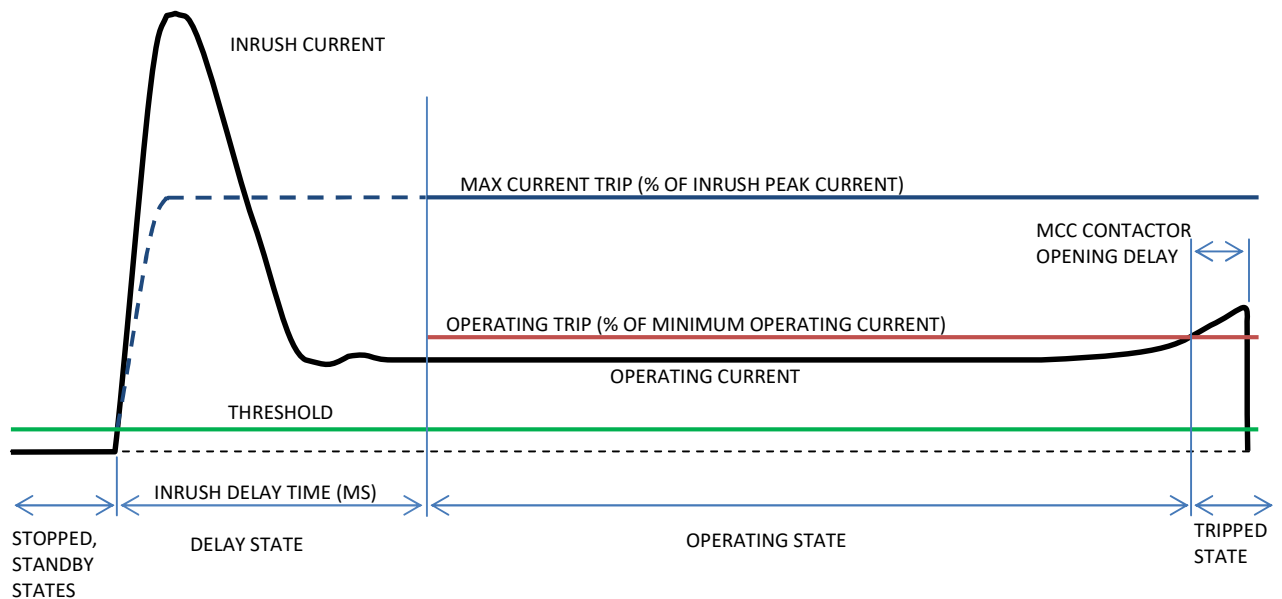

Figure 1: Typical Test Sequence
- 4.7 Figure 1 shows a hypothetical current trace (not to scale) for a run. The relay progresses through various states according to the sensed current.